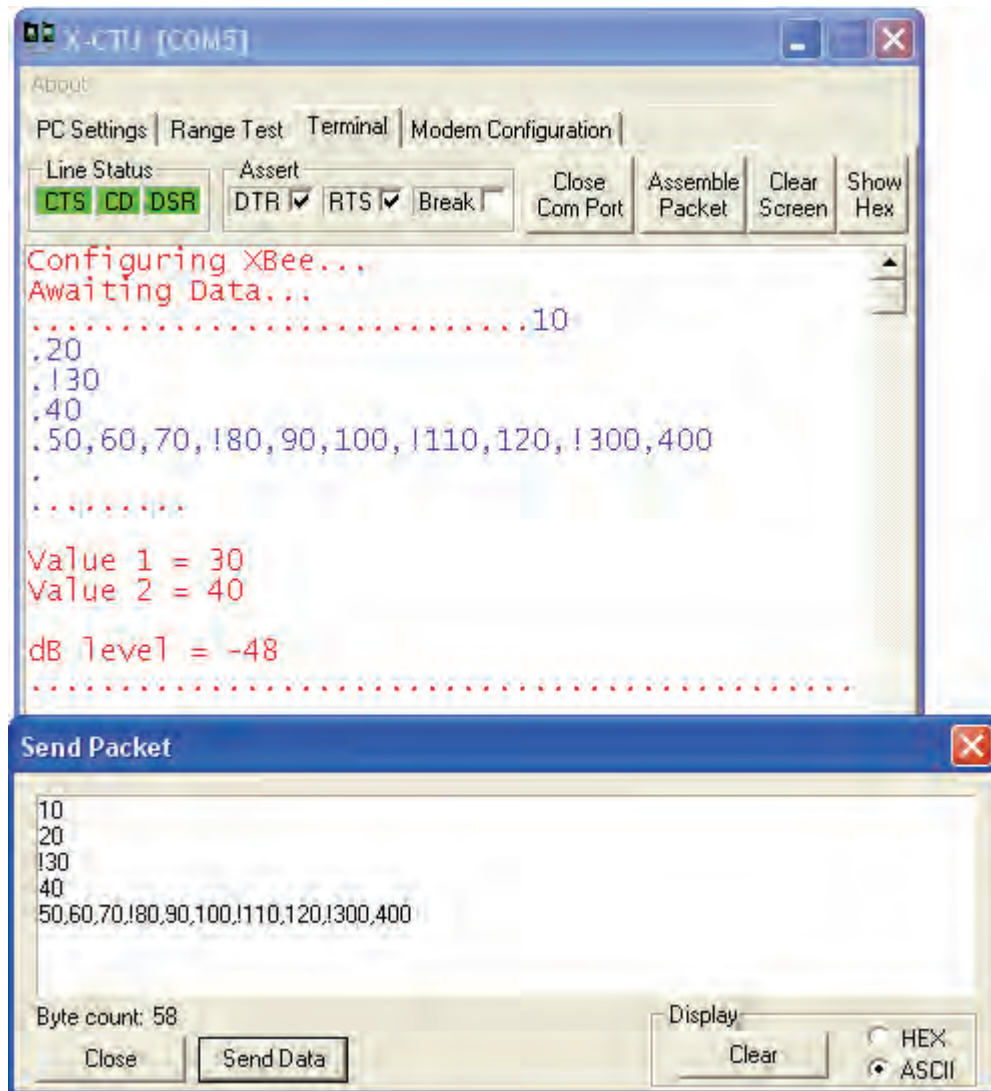

Figure 4-15: Configuring and Reading dBm Level Test
- ✓ Test using the '!' delimiter and values. Note that the dBm level is returned after a good set of data and remaining data is lost, as shown in Figure 4-15.